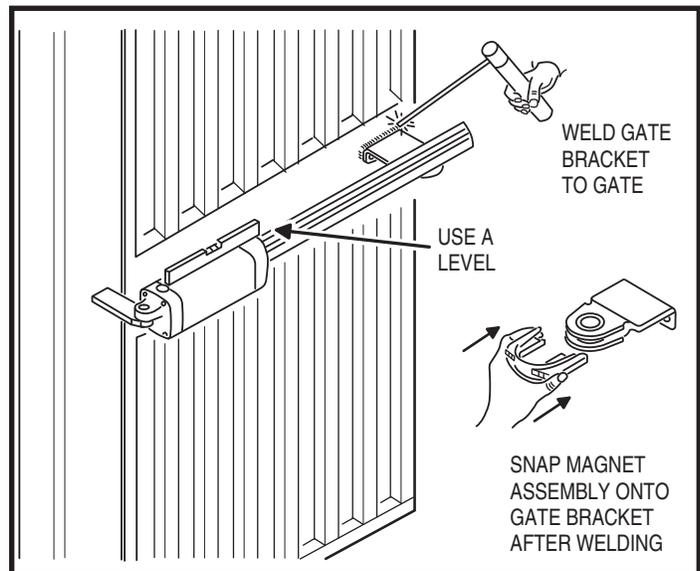

Figure 4. Gate Bracket Installation
3. After the welding is completed and the gate bracket has cooled, snap the limit switch magnet assembly onto the gate bracket (see Figure 4).